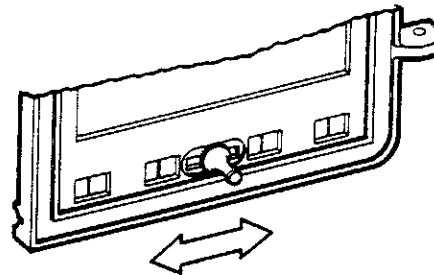

FIG. 20
1. Open the air inlet shutter on the door (See Fig. 20).
1. The temperature in the room and the rate at which wood is burned can be controlled by adjustment of the air inlet shutter (Fig. 20) and the flue outlet damper. Close the air inlet shutter and/or the flue outlet damper partially or fully to reduce the rate of burn and temperature in the room. Open the air inlet shutter and/or the flue outlet damper to the